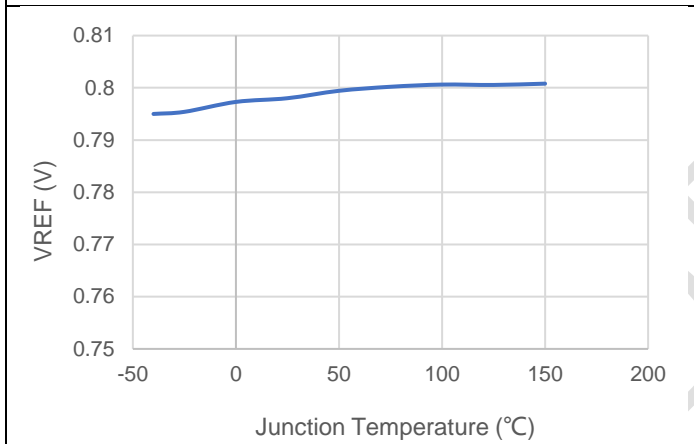

Figure 9 VREF Vs. Temperature
The GBI1430 output voltage can be easily set up using a resistor divider network R1 and R2 as shown in the typical application circuit Figure 9. Use Equation (6) to calculate the resistor divider values.